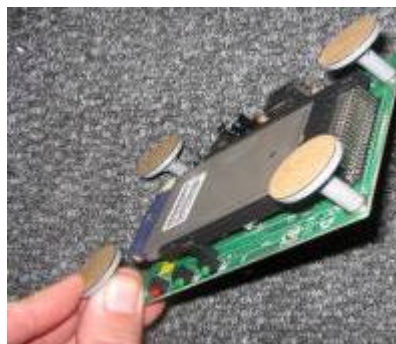

Figure 2. Secure the stand-off pillars
- Use the provided screws and washers (items 5 and 6) to secure the stand-off pillars to the electronics you wish to install. Be sure that the height of electronics and pillars does not exceed 40mm (refer to figure 2).